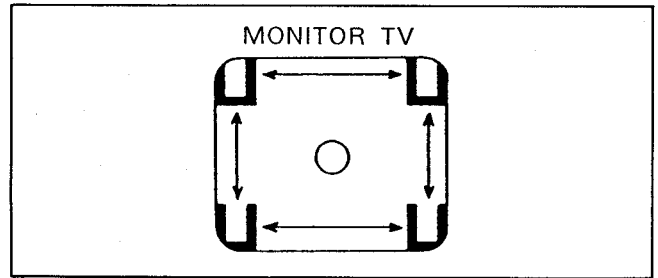

Fig. C13
8. Confirm that the monitored picture does not contain Blooming in both High Speed Shutter "ON" and "OFF" modes even if the camera moves as shown in Fig.C13.